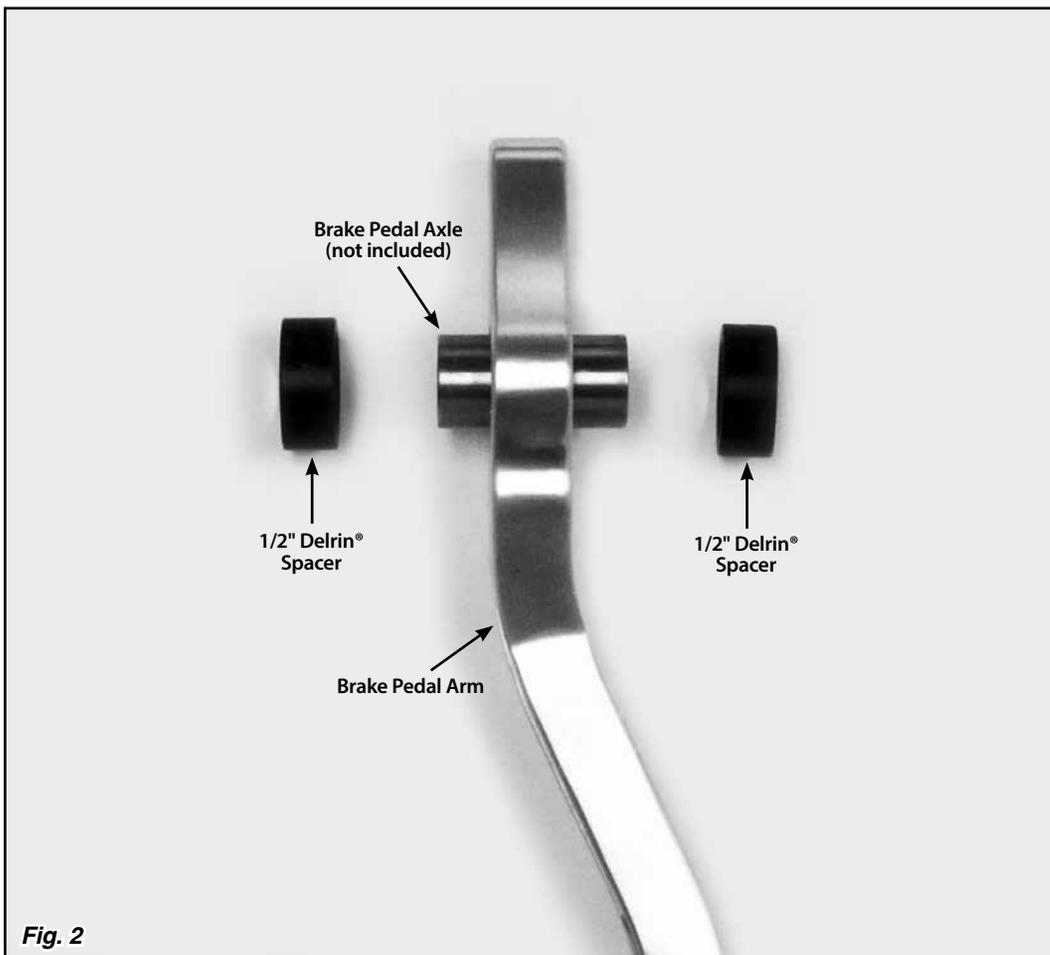

Fig. 2
Step 3: Install two 1/2" Delrin® spacers onto the axle, one on each side of the Brake Pedal Arm. **Fig. 2** Slide the brake pedal assembly with the axle and spacers up into the pedal hanger bracket and reinstall the original axle bolt and nylock nut (not included). Make sure the Brake Pedal Arm moves back and forth smoothly.